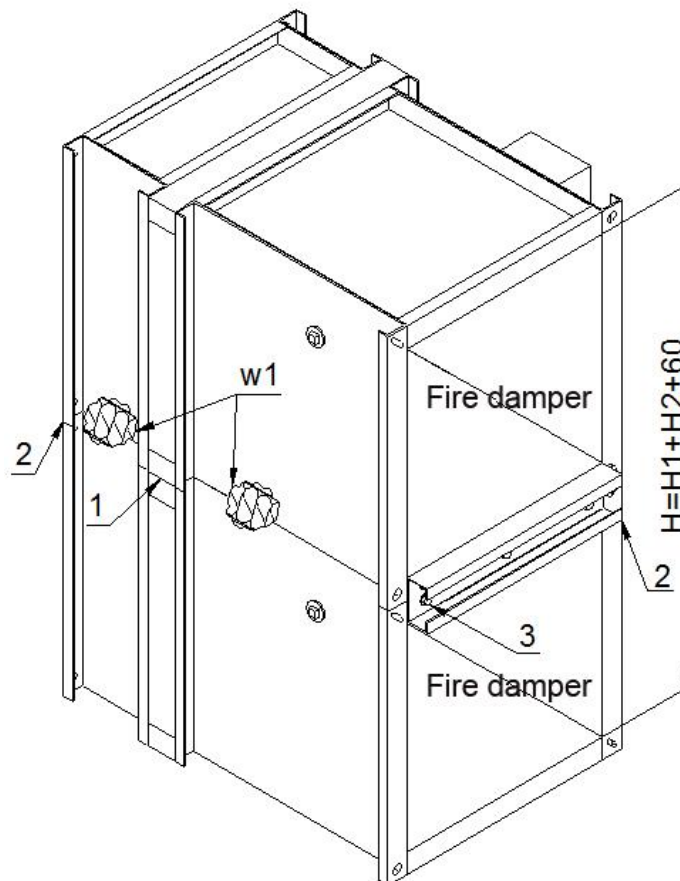

Figure 2. Arrangement 1 - vertical battery consisting of two fire dampers KWP
**Arrangement 1 – vertical battery consisting of two fire dampers KWP (Figure 2)**
1. Fix the gasket on insulating spacer of one of adjoining fire dampers (position (1) in the Figure 2).
3. Place the fire damper A on the fire damper B and assemble them together on the front and back with use of perforated assembly strips (2) and self-tapping screws M6x16 (3), which should be tightened into the openings in fire damper body. In order to carry out the correct assembly, 4 self-tapping screws should be used per each assembly strip with length of 1200 [mm].